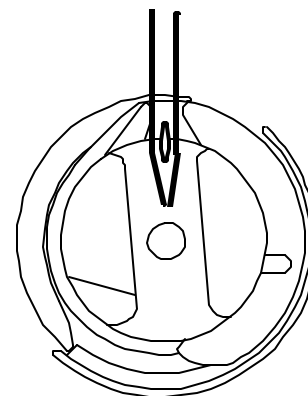

Figure 3
16. Before making any adjustments see if needle eyelet is positioned halfway through hook basket. See *Figure 3*.